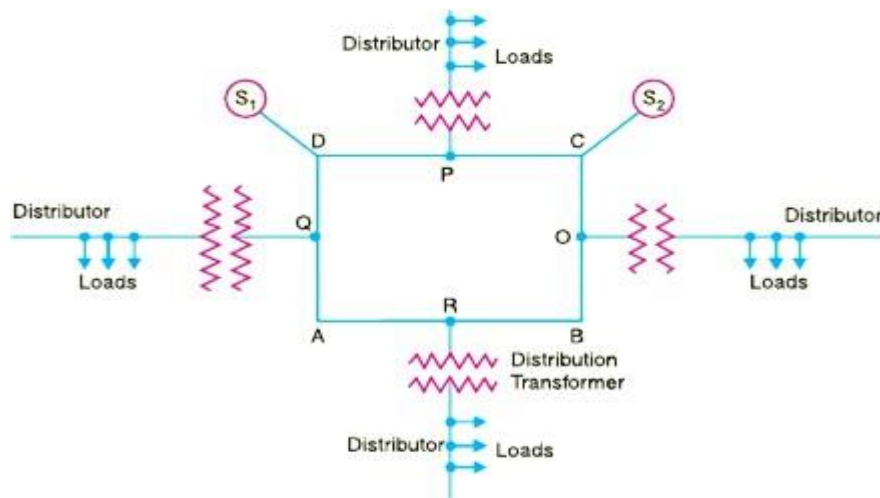

Fig 4.7 Ring Distribution Systems
b) **Ring Distribution System:** The primaries of the distribution transformer form a loop is shown in fig 4.7. It starts at the substation and makes a loop through the area to be served and return to the substation.